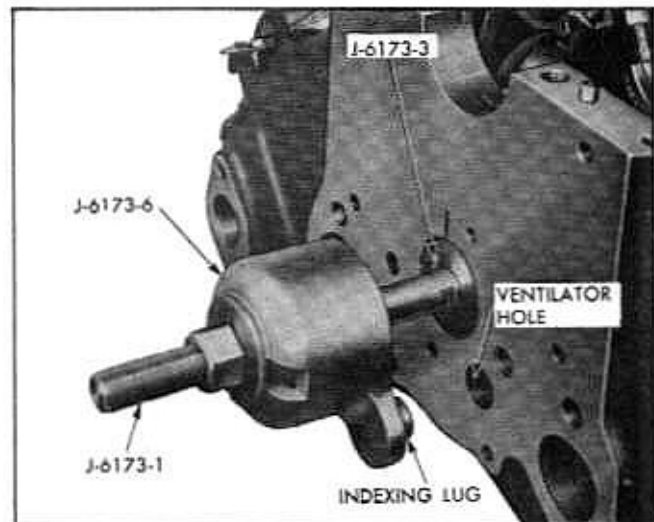

Fig. 6-70 Positioning Indexing Collar
4. Insert shaft and Indexing Collar through Remover and Replacer Adapters and position lug on Indexing Collar in ventilator hole in front of block (Fig. 6-70). This indexes the shaft so that it cannot rotate.
6. Insert Shaft with Indexing Collar, thrust washer, and nut through Remover, Pilot and Replacer Adapters and index lug on Collar with ventilation hole in front of block (Fig. 6-70).